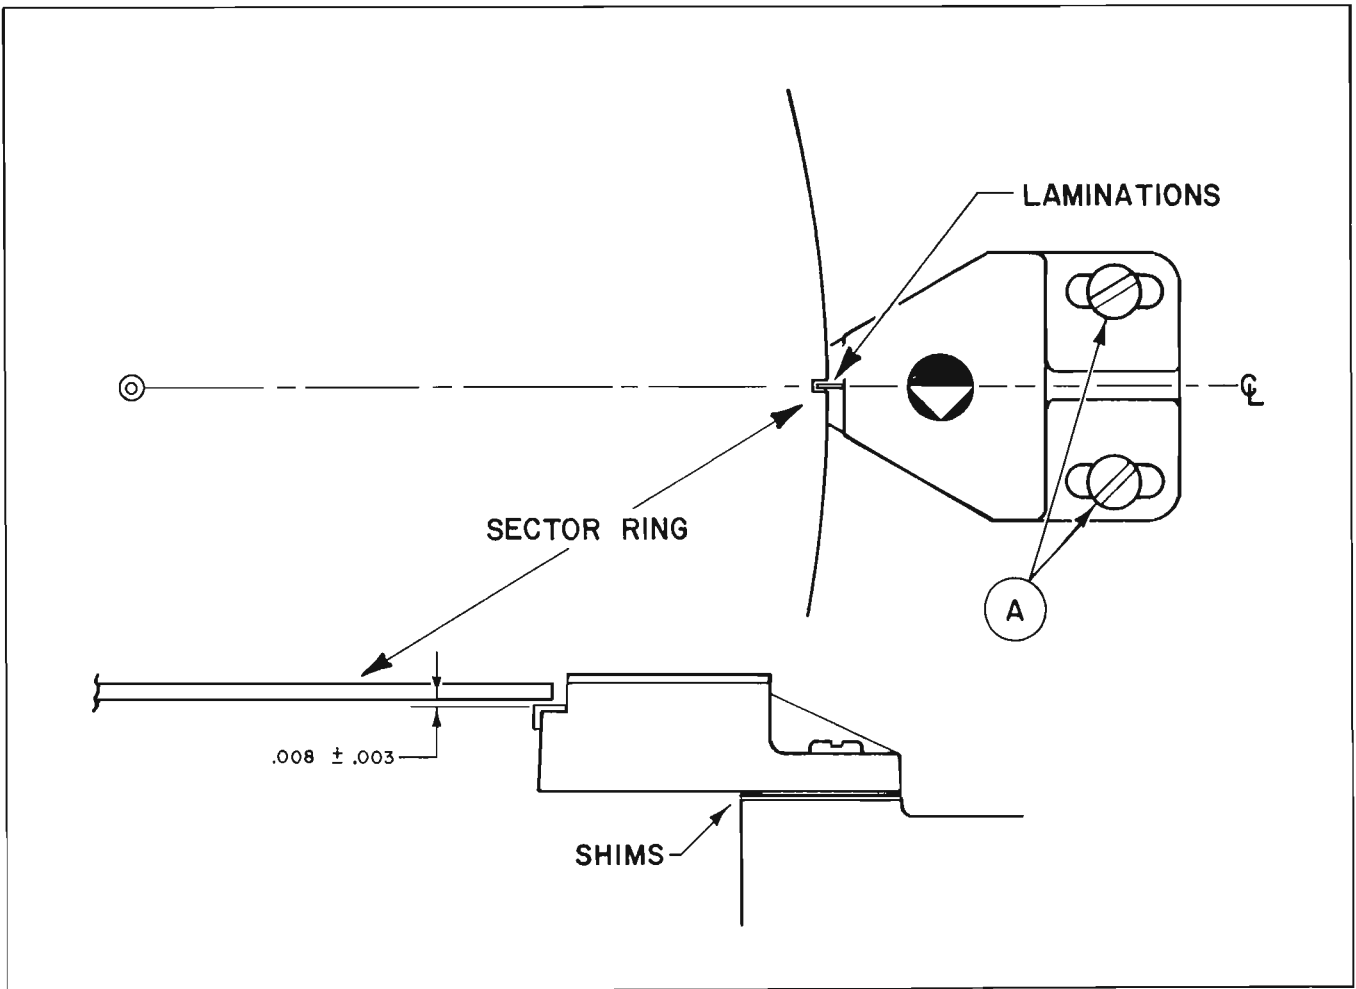

Figure 5-5. LOWER INDEX TRANSDUCER ADJUSTMENT
3. Using a plastic feeler gauge, verify transducer lamination-to-sector ring clearance of $.008" \pm .003"$, as shown in Figure 5-5. If the clearance is out of tolerance, loosen screws A, and add or remove shims (P/N 16358) as required. Retighten screws A just enough to secure the transducer and still allow slight lateral movement.
2. Verify the transducer lamination-to-sector ring clearance of $.008" \pm .003"$ by laying a straight-edge across the spindle hub and checking the gap between its lower edge and the top of the lamination with a plastic feeler gauge. If the clearance is out of tolerance, loosen the hold-down screws (same as screws A in Figure 5-5), and add or remove shims (P/N 16358) as required. Retighten the screws just enough to secure the transducer and still allow slight lateral movement.